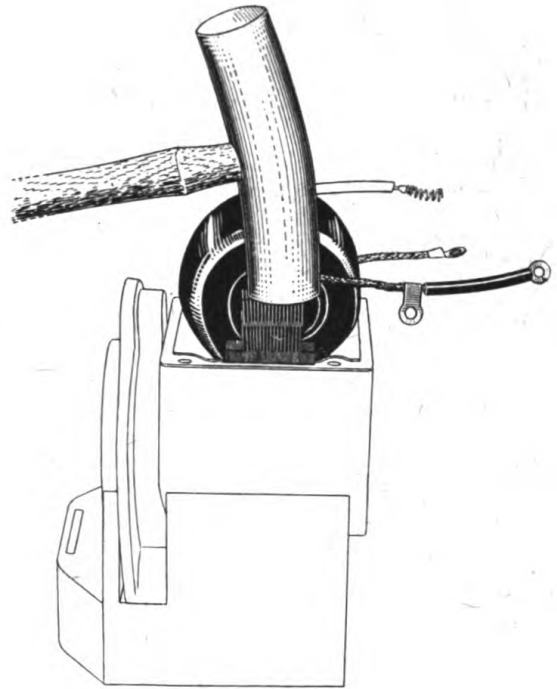
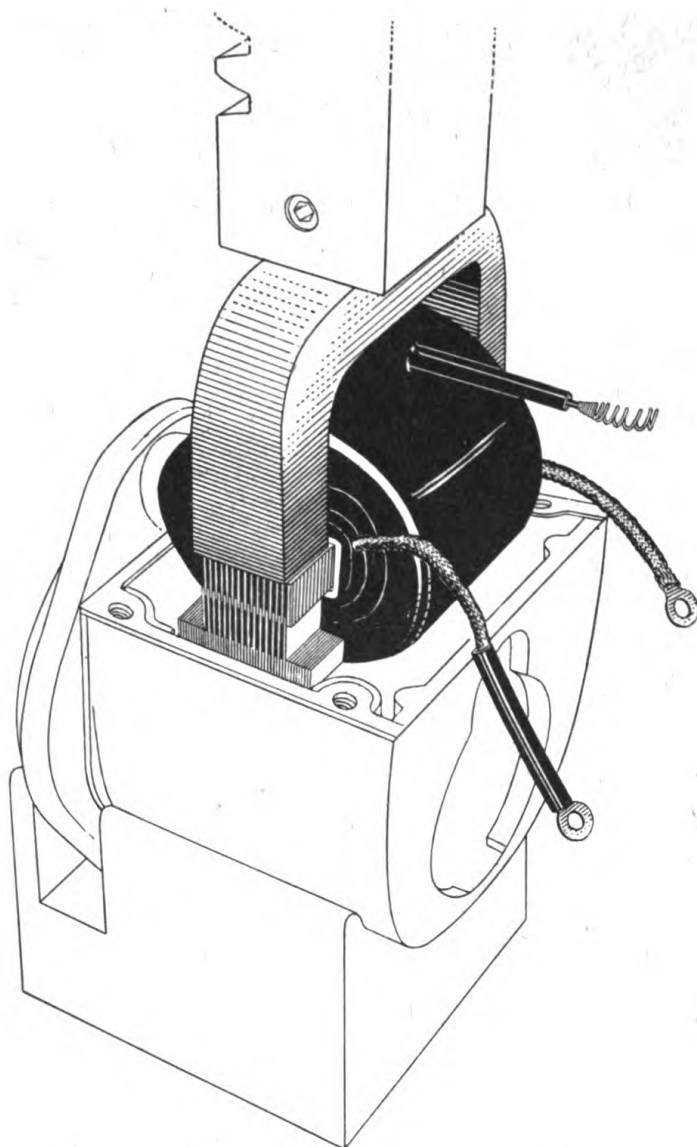

Fig. 53
Fig. 54
32. If necessary to replace coil, place coil in frame, as shown in Fig. 53 starting interlacing bridge with the pole pieces, then press to place using tools No. 29 and No. 19 as shown in Fig. 54.